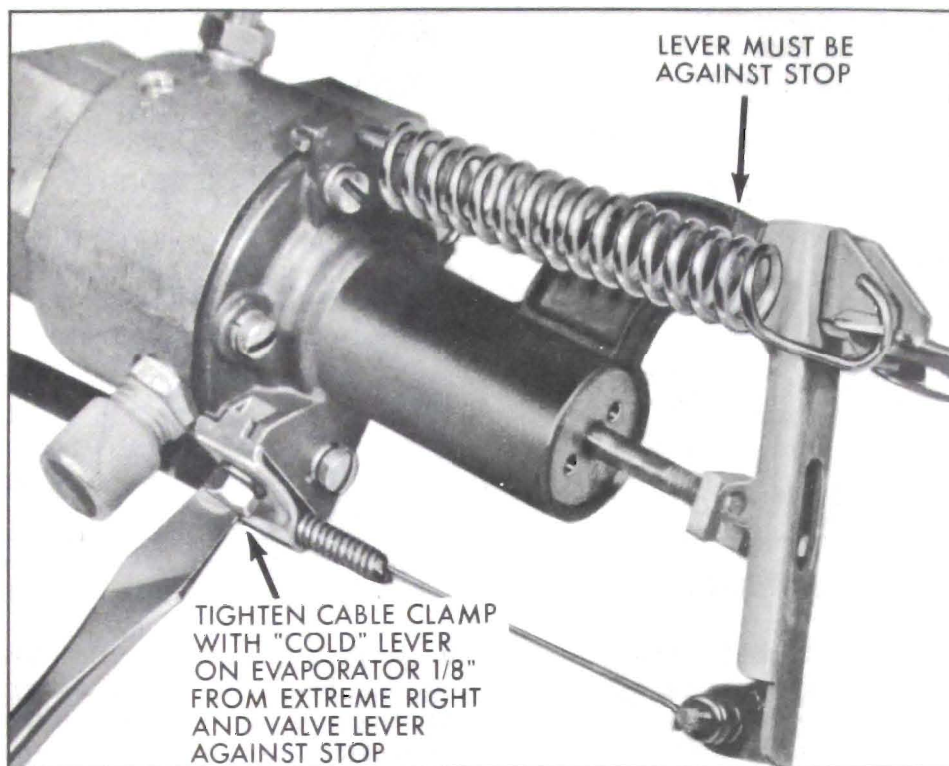

Figure 11-97—Suction Throttle Valve Control Wire Adjustment
4. Position the suction throttle valve control lever so that it is against its stop. See Figure 11-97. Tighten wire clamp.